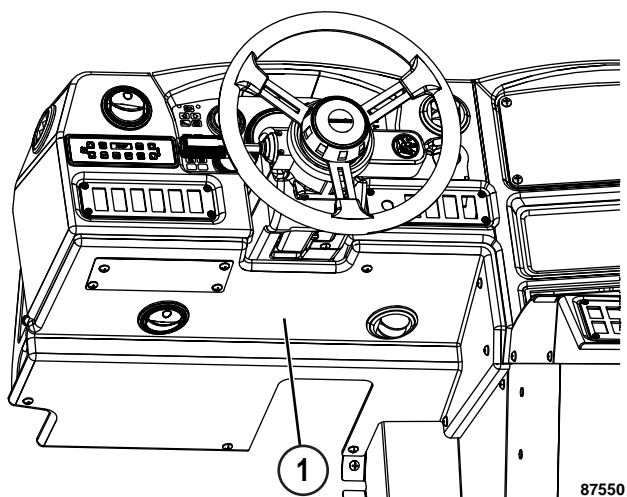

FIGURE 50-13. ACCESSING THE STEERING COLUMN
3. Remove lower dash panel cover (1, Figure 50-13).